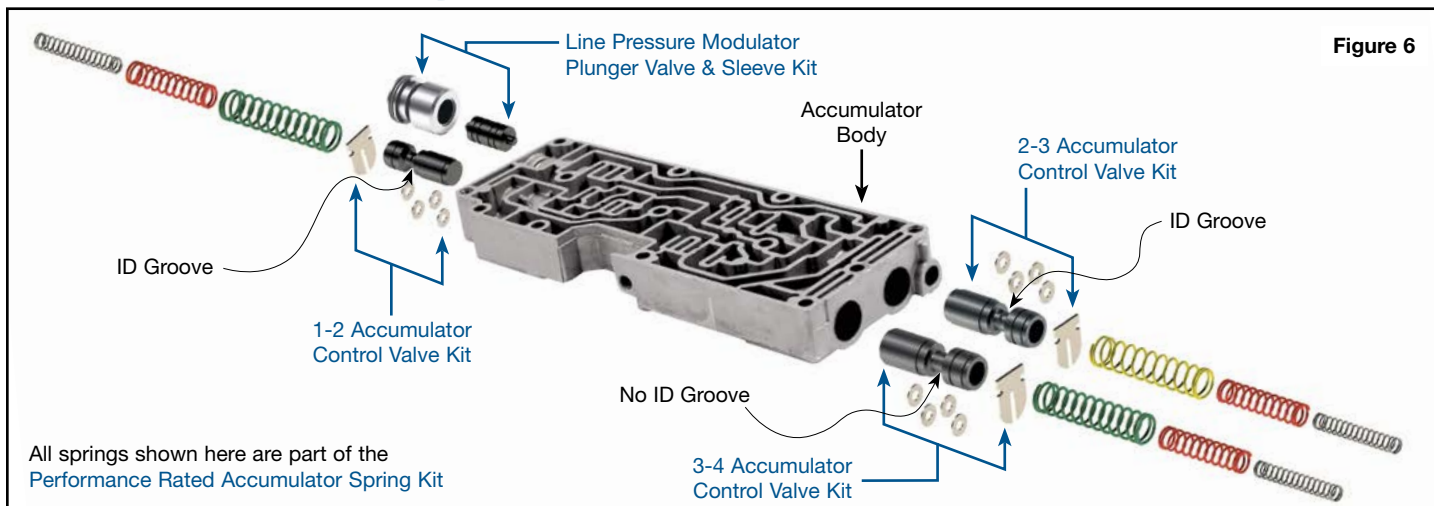

Figure 6
- b. Install the Sonnax accumulator control valve with groove or no-groove (see illustration (**Figure 6**) or chart (**Figure 7**) for correct locations). It is recommended that the accumulator valves be assembled without shims and the vehicle road tested. For performance applications, shims can be added to the spring pocket in the accumulator valve to increase firmness of a specific shift. The more shims used, the firmer the shift.
- d. Install the OE accumulator piston and Sonnax performance rated accumulator springs. Install either a large green or a large yellow accumulator spring into the OE accumulator piston pocket, followed by a medium-sized red spring and a small, non-painted spring. See illustration (**Figure 6**) or chart (**Figure 7**) for correct spring selection.
See photo overview on previous page (**Figure 6**).